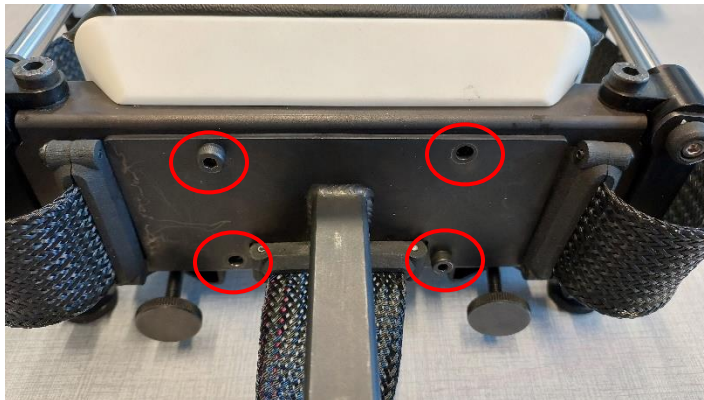

Figure 22. Remove the four screws on the back of the head array
3. Remove the four screws on the back of the head array (See Figure 22).